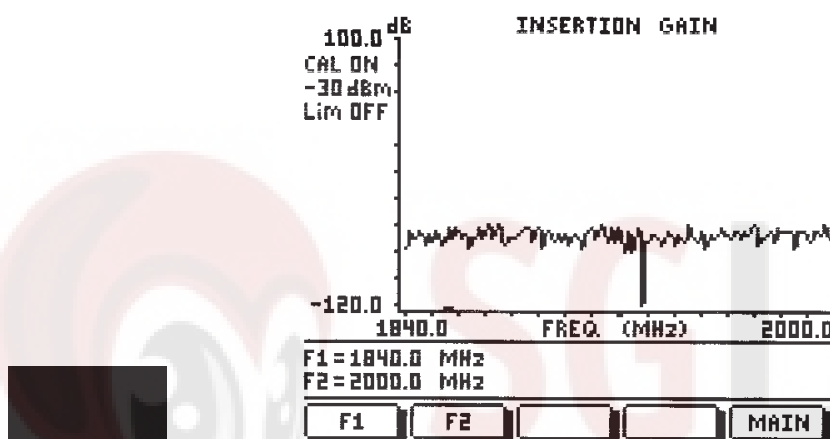

Figure 3-13. Measurement Display before Amplifier Connection
**Step 16.** Disconnect the 7/16(f) adapter. The resulting display should be similar to Figure 3-13.